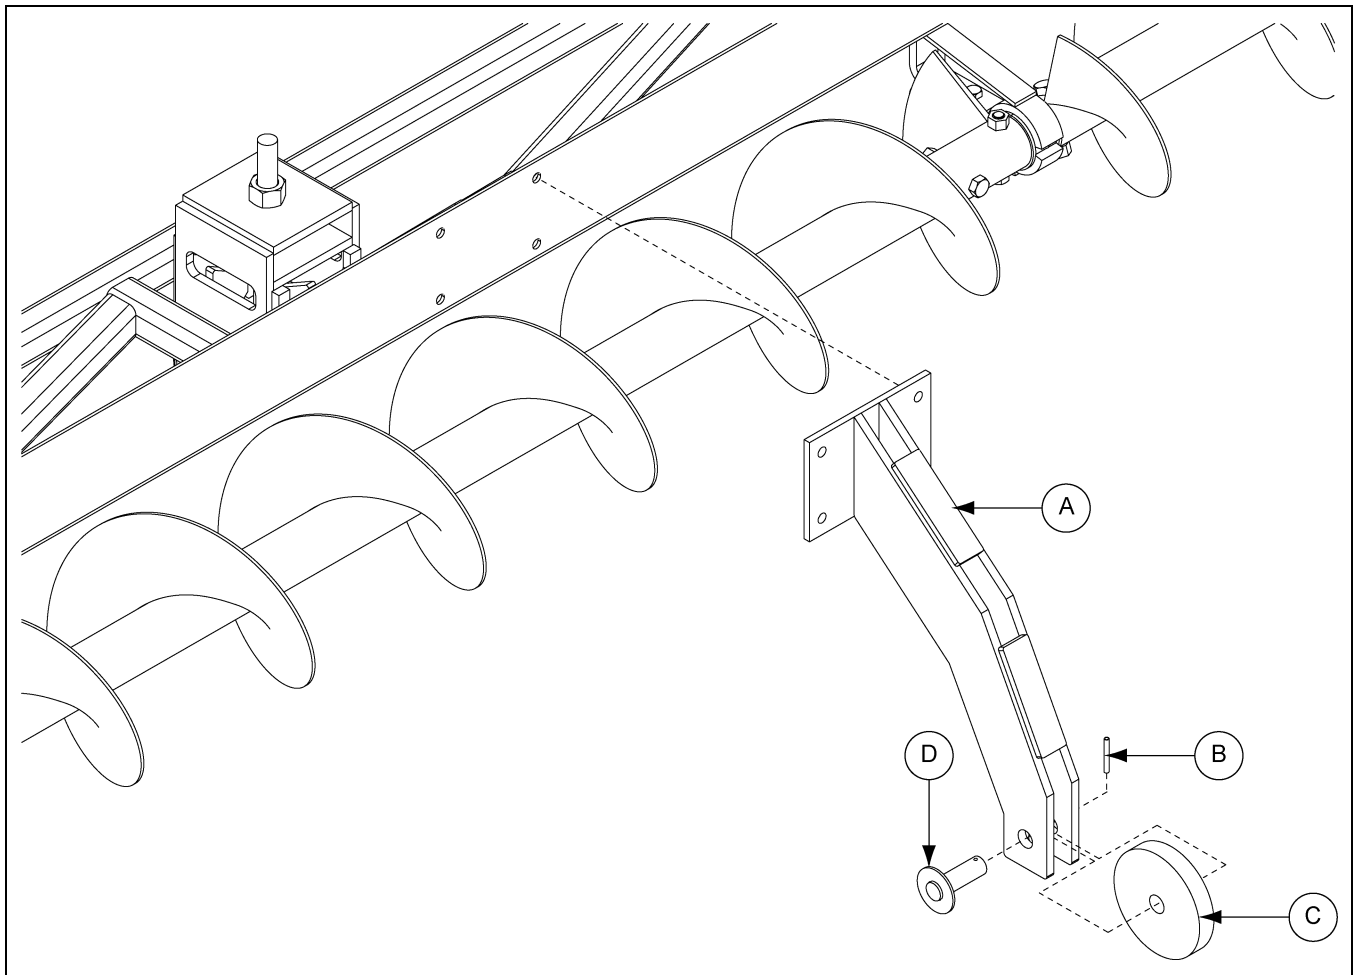

Figure 4AR
1. Assemble front wheel (C) to strut (A) using pin (D) and roll pin (B). (See Figure 4AR.)